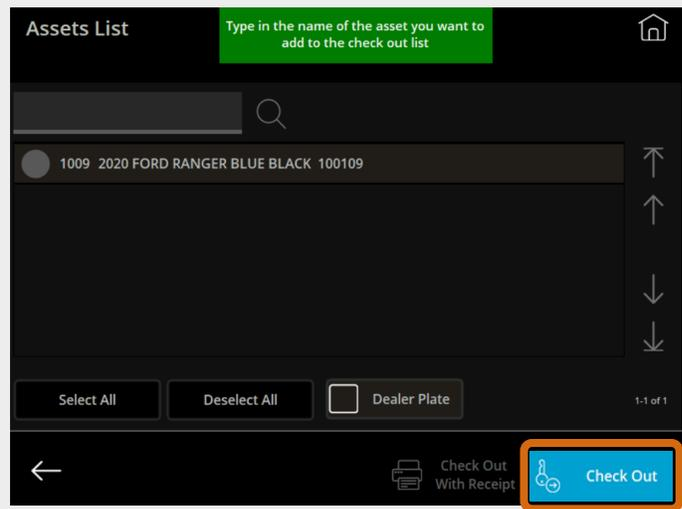

Fig. 54 – Review the filtered asset(s) on the Assets List screen
6. Press **Check Out**, as shown in Fig. 54.